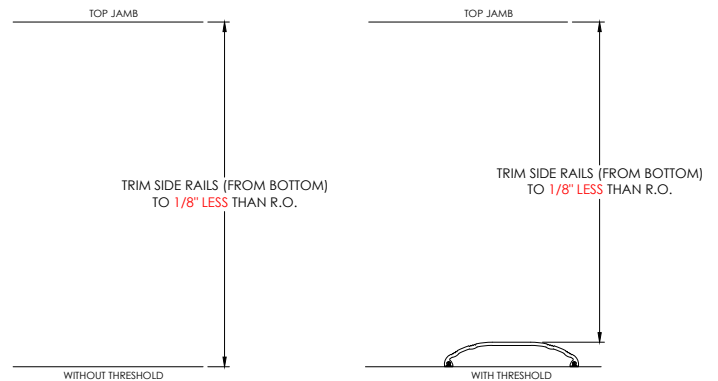

Figure 2
2. Measure the jamb door opening heights at each side (from the top of the threshold if you are using it). Trim the length of each side rail (from the bottom) with a hacksaw or chop saw to the opening size less 1/8" (to allow header to slip in above). See Fig. 2.